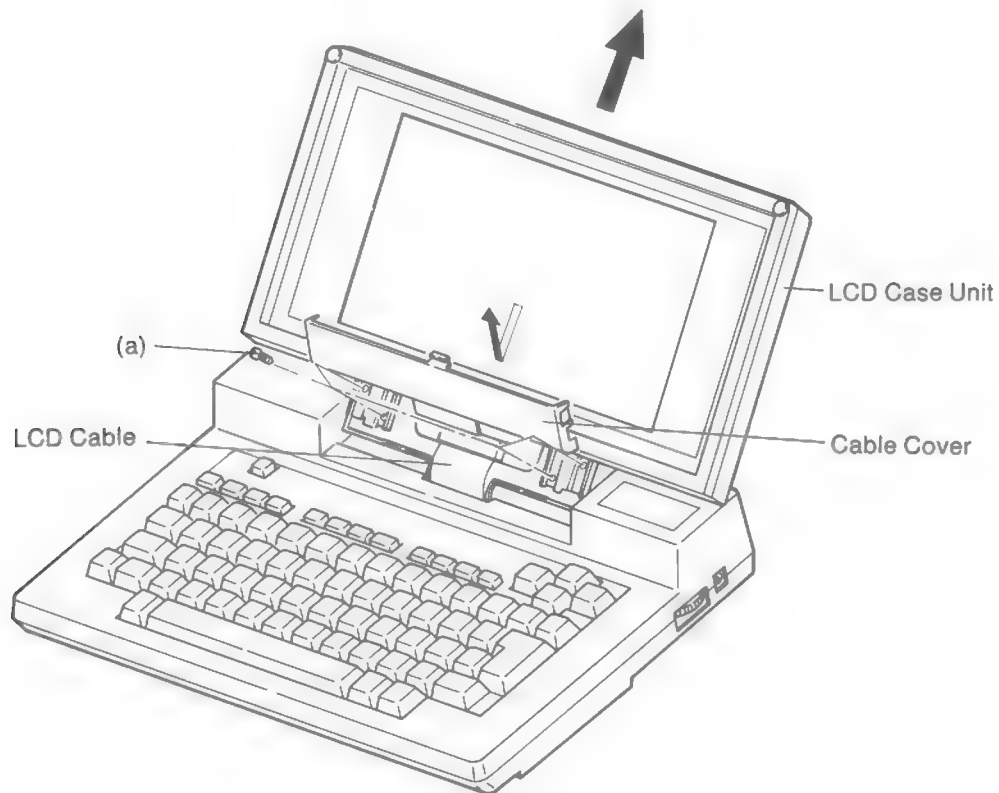

Figure 2-1. LCD Case Removal
5. Lift the LCD case unit away from the top cover by moving it in the direction indicated in the Figure 2-1.